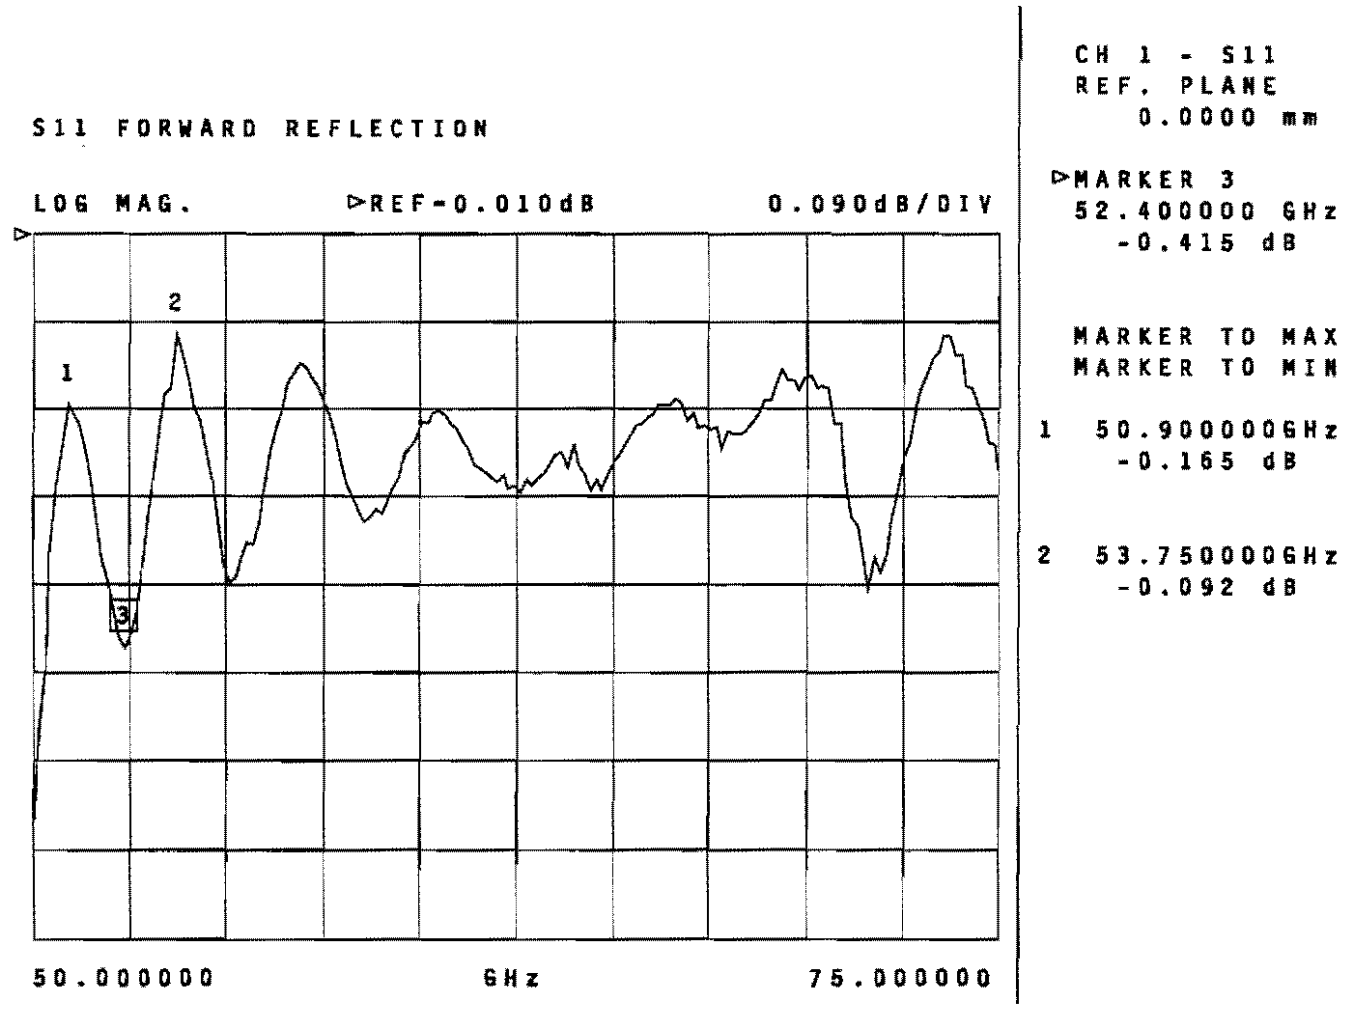

Figure 3-15. Source Match / Directivity Test Waveform
Step 6. Using rotary knob, position markers 1 and 2 to adjacent peaks of the ripple with the greatest negative trough; position marker 3 to the bottom of the trough (Figure 3-15, page 3-67).